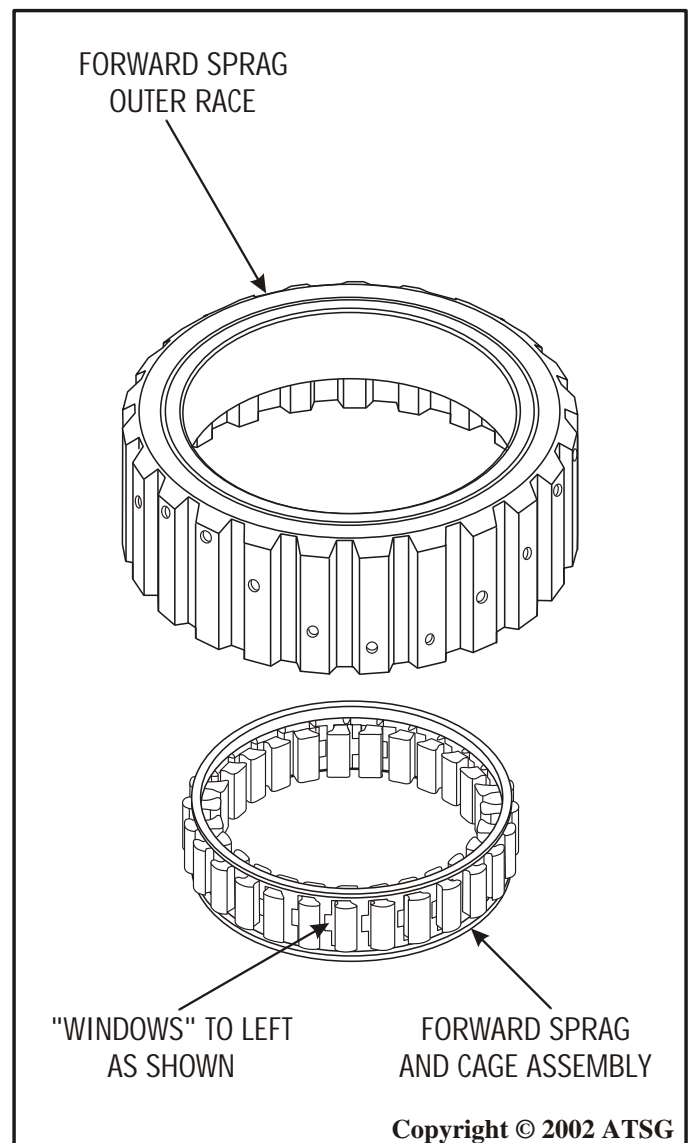

Figure 101
7. Install the forward sprag cage assembly into the outer race **exactly** as shown in Figure 101, with the "windows" to the left, and ensure that the outer race is arranged as shown. Refer to Figure 101.